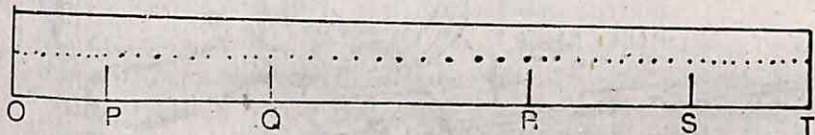

Fig. 8.2
2. The timer starts buzzing when the current is switched on. Grasp the free end of the paper tape in your hand and walk several steps (2 or 3 metres), with this hand on the hip and finally stop. You will get a series of dots on the paper tape as shown in Fig. 8.2. The dots will have occurred at regular time intervals, but they will start close together, then be farther apart. Finally, the distance apart of dots will be very small.
4. Choose a distinct dot on the tape close to starting point as the origin (O) and mark every 10th mark conspicuous by another mark (P, Q, R,.....) on it. Measure distance, s , of these marks from the origin and plot a $s-t$ graph.